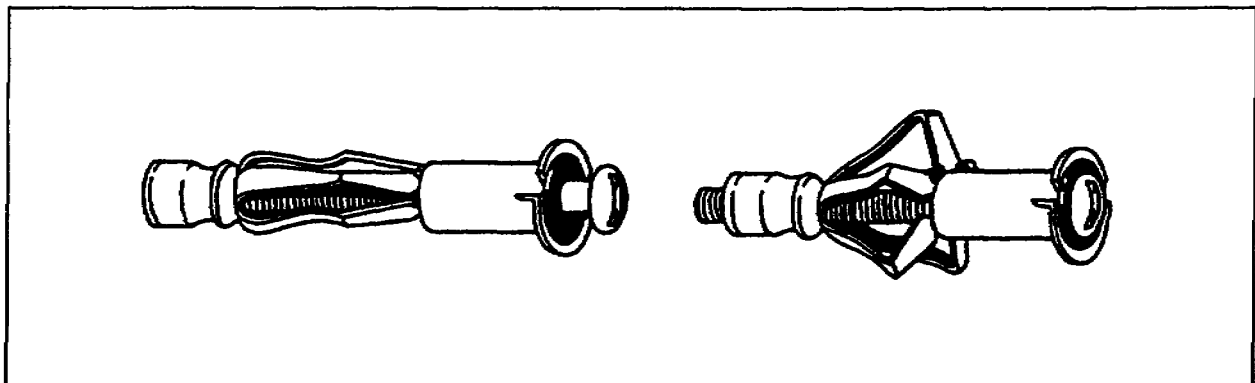

Figure 1-45. Molly universal screw anchors
c. *Molly* Universal-Screw Anchors. Molly fasteners (Figure 1-45) provide a solid means of attaching fixtures to interior walls. A hole is drilled the same size as that of the outside diameter of the fastener. These fasteners are designed to expand behind the wall covering.